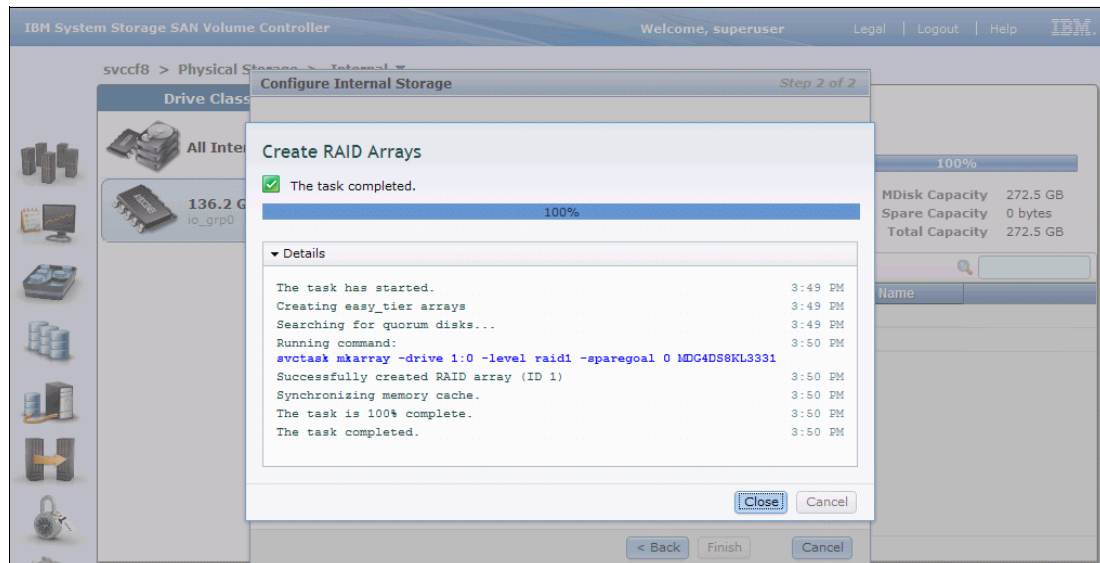

Figure 16-13 Create RAID Arrays dialog box
18. In the Create RAID Arrays window (see Figure 16-13 on page 567), review the status. When the task is completed, click **Close**.